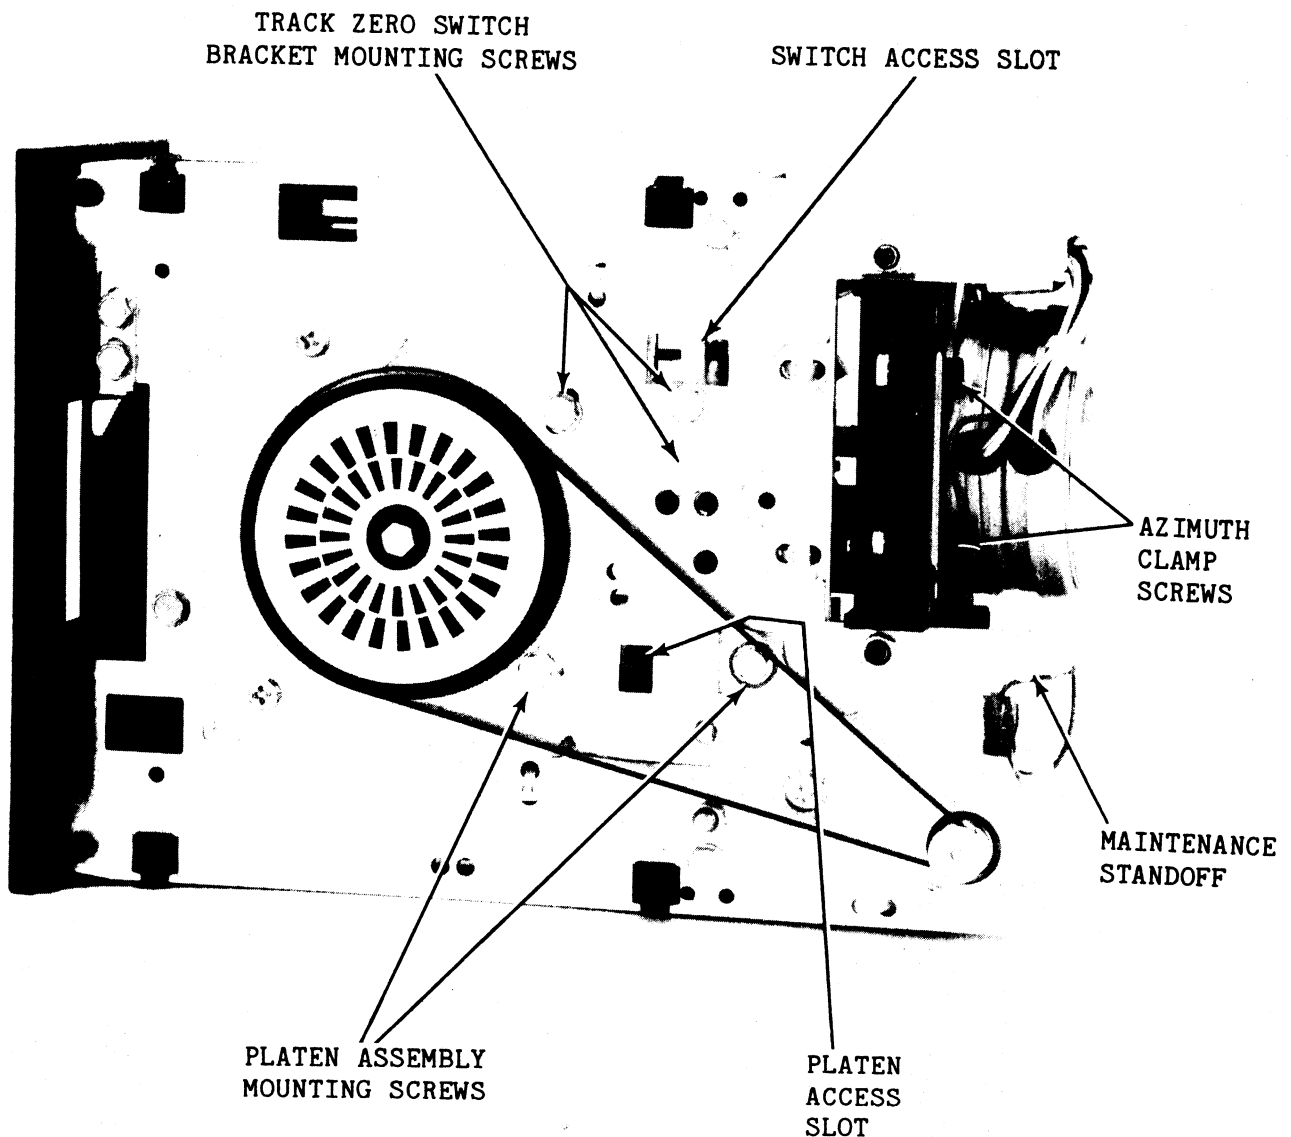

Figure 4-5. Drive Adjustment Access
- f. Loosen two platen assembly mounting screws (see Figure 4-5), and temporarily move the platen (use a screwdriver as a wedge between the tongue on the platen and slots in the chassis) until the index-to-burst time after reclamping the platen is 300 usec. Too much force can damage the polycarbonate platen material.
- g. Loosen two positioner azimuth clamp screws (visible from below at the rear of the step motor, see Figures 4-5 and 4-7), that hold the positioner spring plate to the mounting block.
- a. Turn the drive on its side. Loosen the two platen assembly mounting screws (see Figure 4-5) and move the platen (use a screwdriver as a wedge between the tongue on the platen and slots in the chassis) until the index-to-burst time is now the optimum 200 ± 30 usec after reclamping the platen.
- g. Slightly loosen the three track zero switch mounting screws (see Figure 4-5). Use a screwdriver as a wedge through the track zero access slot to move the switch bracket backward or forward to line up the transitions referred to in step f above. Tighten the track zero switch mounting screws.